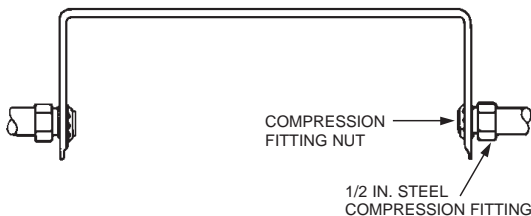

FIGURE 8
1. Secure the conduit to the detector bracket using the two 1/2 in. steel compression fittings on the series detector bracket or the single 1/2 in. steel compression fitting on the terminal detector bracket. See Figure 8.